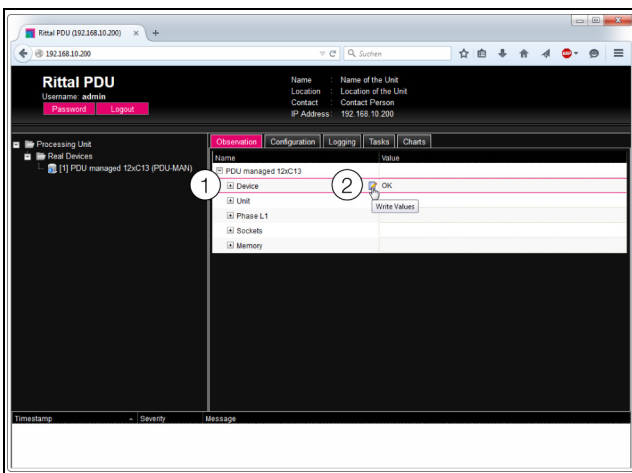

Fig. 33: Select multiple parameters
- Simply open the "Master PDU" entry by clicking on the "plus" symbol in front of that entry (fig. 33, item 1).
- Position the mouse pointer at the end of the first column in the "Device" line (fig. 33, item 2).